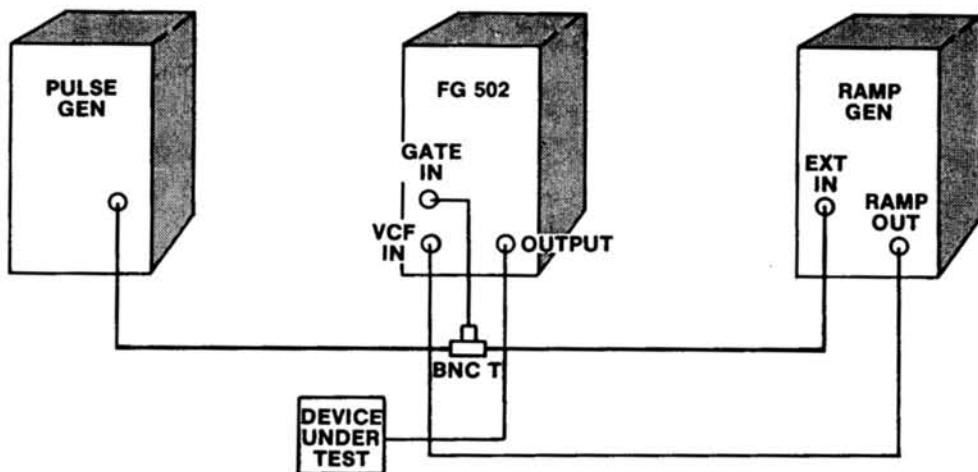

Fig. 2-9. Tone burst generation or stepped frequency multiplication.
1. Connect the equipment as shown in Fig. 2-9.